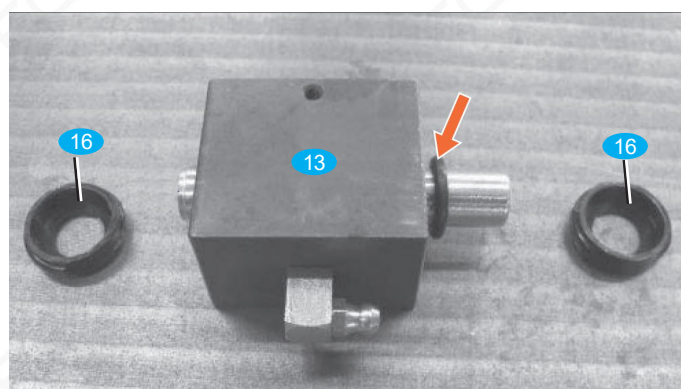

Fig. 1: Assembly of the ball screw
- Pull the circlips (Fig. 1, red arrow) off the assembly sleeve and press a dirt wiper  into the recirculating ball nut  on both sides.
- Screw the recirculating ball nut onto the recirculating ball screw  in such a way that the lubricating nipple points to the fixed bearing side of the recirculating ball screw (Fig. 1).